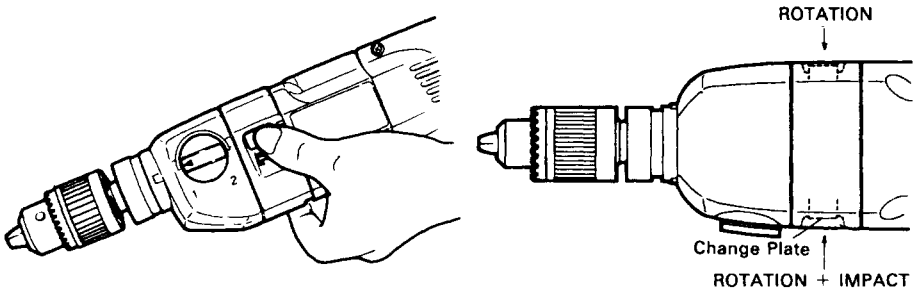

Fig. 5
9. IMPACT to ROTATION changeover (Fig. 5)
- The change plate may not slide smoothly when changing from hammer drill mode to drill mode (Fig. 5).